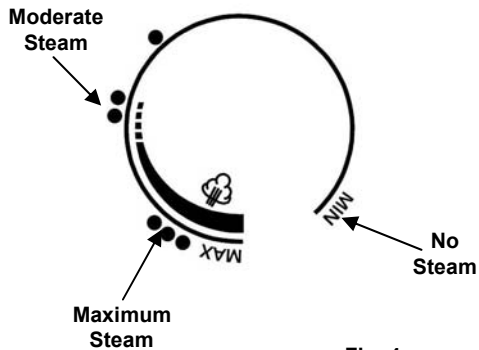

Fig. 4
- Set the temperature dial to the desired temperature. (Fig. 4)